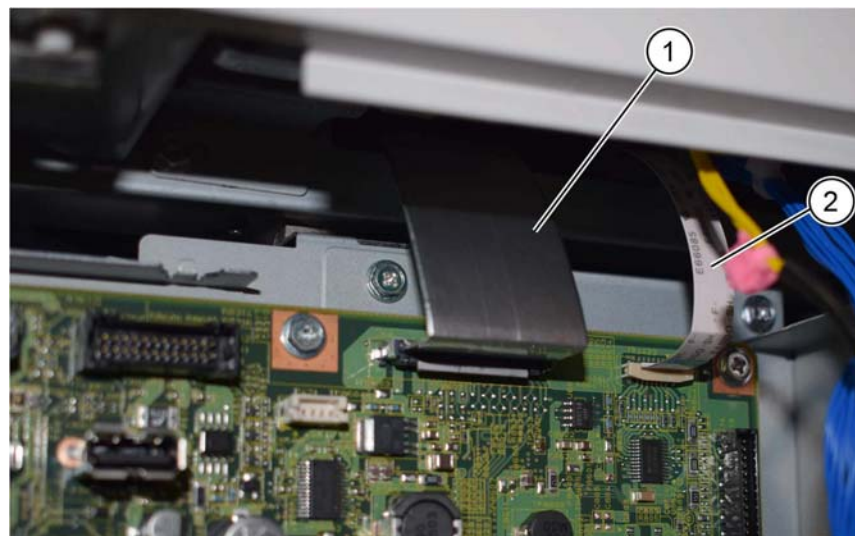

Figure 10 Cables
11. Carefully disconnect the CCD ribbon cable (1) and the FFC LED cable (2), Figure 10.